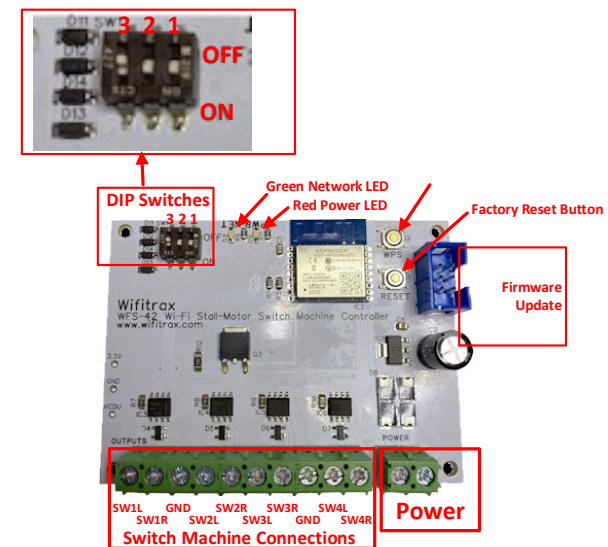

Figure 1 WFS-42 Connections
- (2) Figure 1 shows the WFS-42 module with its connections and switches labelled. Configure the DIP Switches on your module to provide a suitable output voltage as in Table 1. Do not set the voltage too high for the switch machine in use. If in doubt start with the lowest voltage and increase until it works. The output voltage cannot be higher than about 3 volts less than the supply voltage.